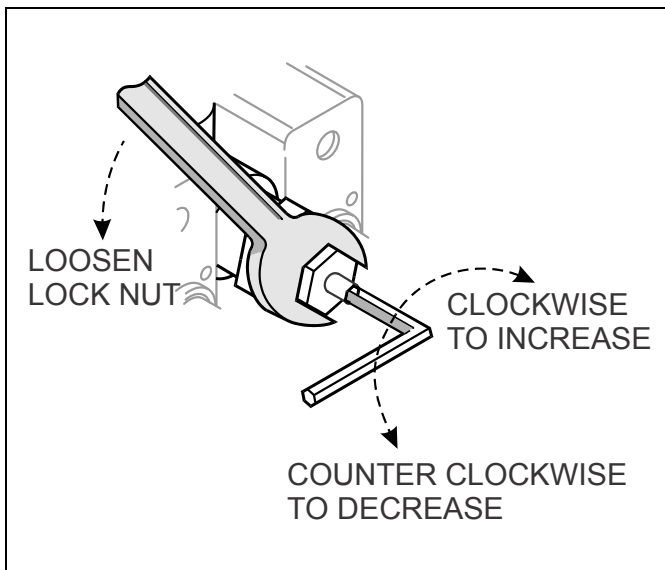

Figure 3-18: Relief Valve Setting
10. Loosen the relief valve jam nut (See Figure 3-18).
11. Adjust the valve stem by turning clockwise to increase pressure, counterclockwise to decrease pressure (See Figure 3-18).